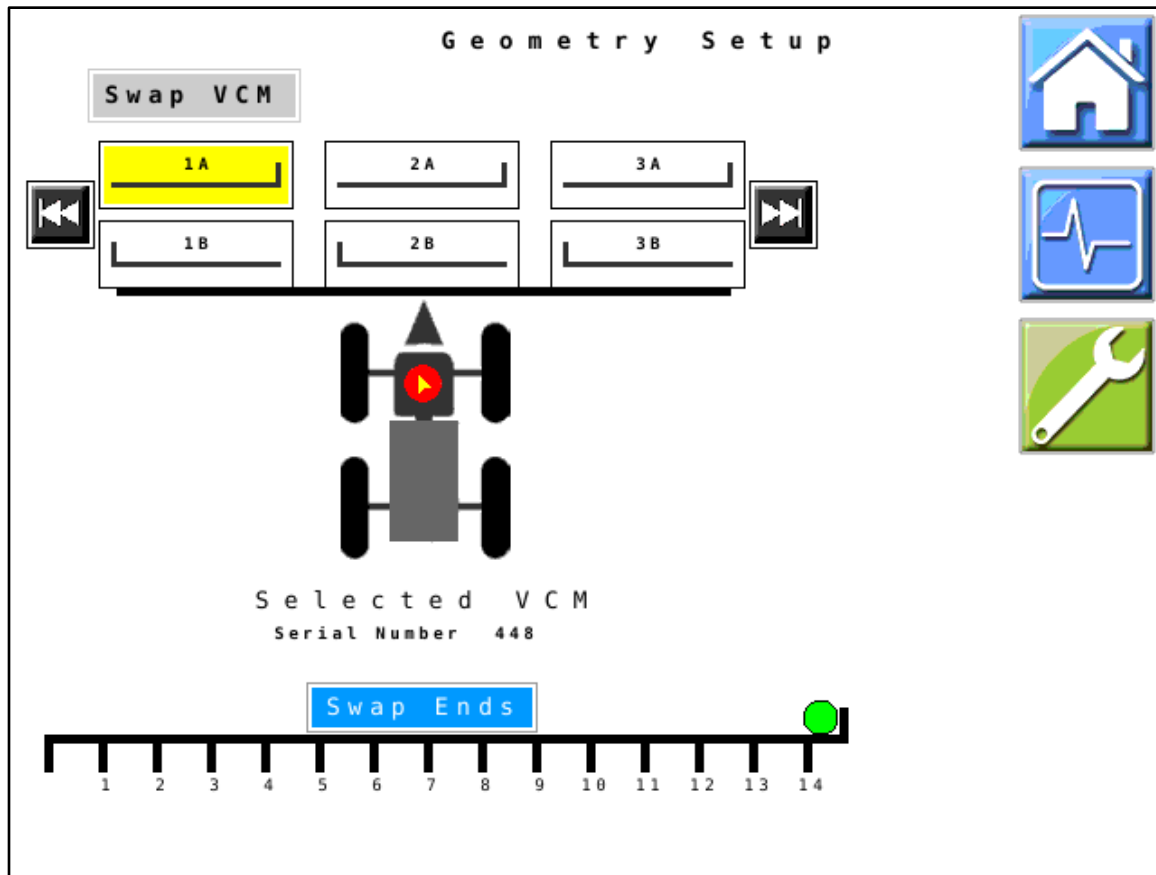

**Figure 3 — Settings Menu**
3. *Figure 3:* Take note of the different menus which are reached from the settings menu. Some of these will require input of machine specific variables. Other settings only need to be verified correct from the factory.